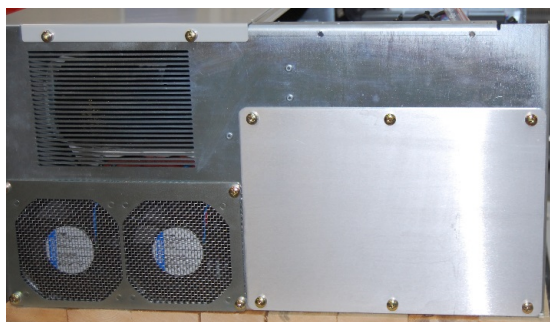

Figure 27: Removing the Aluminum protective cover at the bottom side of the active filter enclosure
3. Remove the protective cover present at the bottom right side of the filter (Cf. Figure 27)